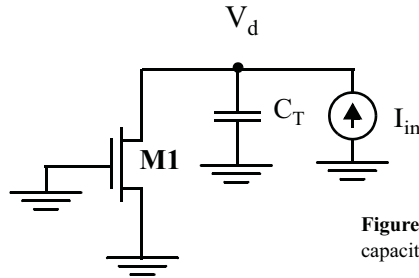

Figure 0.15 Circuit to measure the total drain capacitance
- c. Consider now the case depicted in Figure 0.15. Assume that V_d is initially at 0 and we want to charge it up to $2 V_T$. Again among, C_{db} , C_{sb} , C_{gs} , C_{gd} , C_{gb} which device capacitances contribute to the total drain capacitance? Once again, make sure you differentiate between different operation regions..